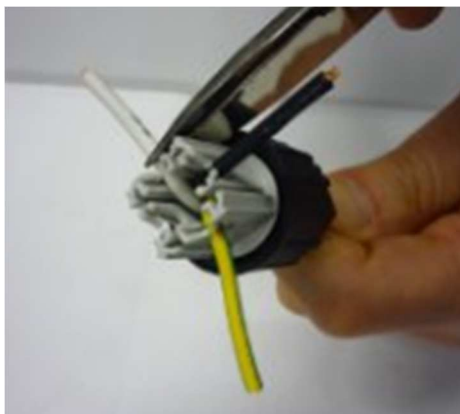

Figure 28: wires cutting
- cut the wires, flush with the body of the bulkhead conne (fig. 28)